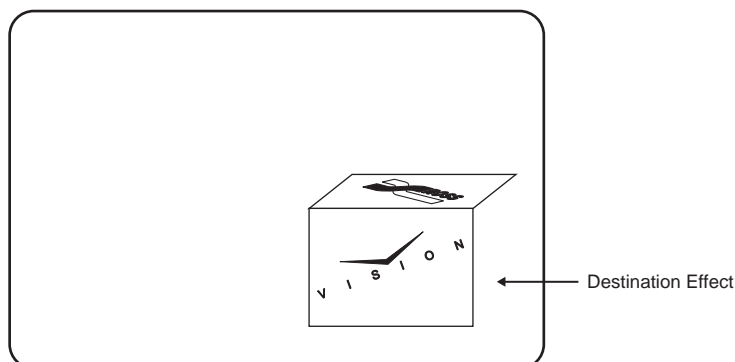

Figure 9.7 Destination Memory — Final Keyframe
4. Create the second keyframe in your effect. For example, move the key to the lower right corner of the screen (**Figure 9.7**).